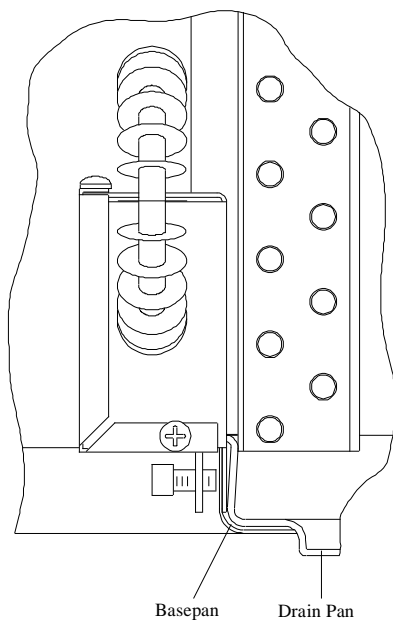

Figure 4
2. Position the heater assembly into the return air opening as shown. For 48000 and 49000 series units, the heater bracket **must be installed between the basepan and the plastic drain pan.** See Figure 4.